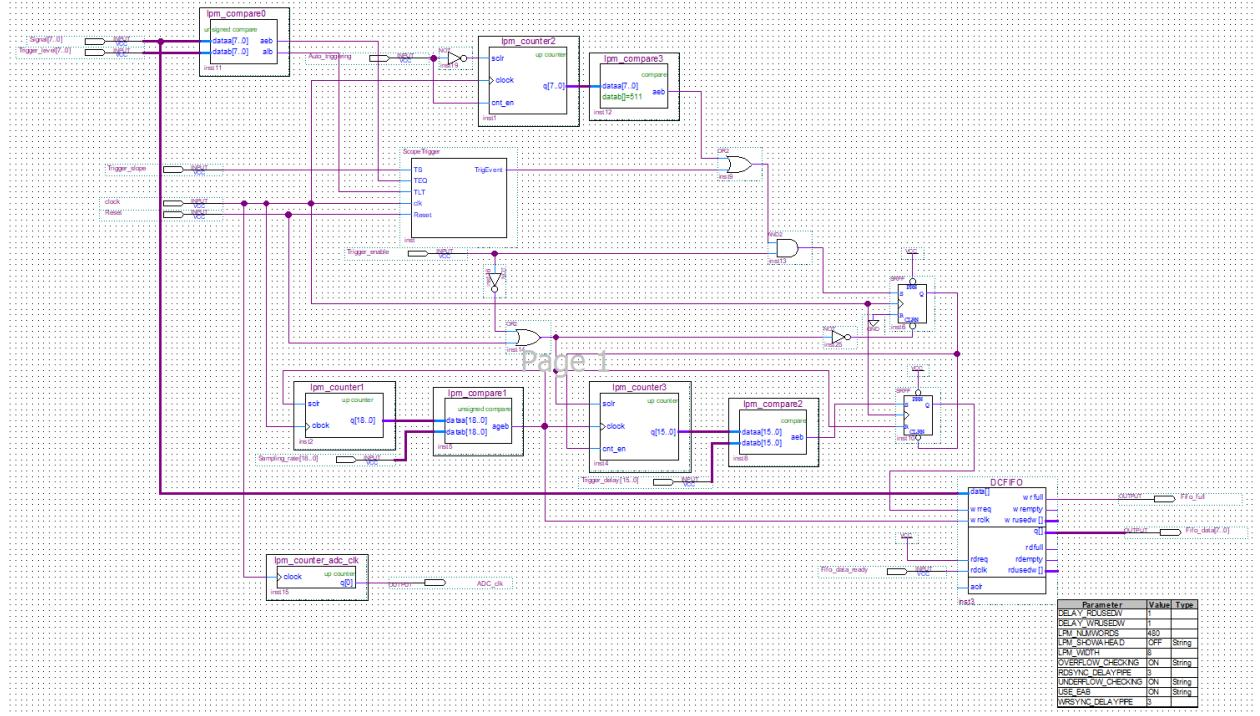

Figure 16: Analog controller block diagram.
**Trigger logic:** First, the system determines whether or not a trigger has occurred. A Moore state machine (the ScopeTrigger block in Figure 16) is used to determine whether or not a trigger has occurred. The trigger event output is set high when the trigger slope is positive and the signal has transitioned from below to above the trigger level, or if the trigger slope is negative and the signal has transitioned from above to below the trigger level. The logic description can be found at Appendix ??.
In order to do this, the 8-bit signal is compared to the trigger level in lpm\_compare0 in Figure 16, and the outputs are sent to
FIFO buffer storage: A FIFO buffer is used to store the signal once a trigger event has occurred (DCFIFO in Figure 16). The FIFO has a size of 480 (the width of the LCD) x 8 bits of data. Once a trigger event has occurred, a counter and comparator are used to create the trigger delay, and an SRFF is set once the delay has been reached to enable writing to the FIFO. A counter and comparator are used to create a clock at the given sampling rate, which is sent to the write clock of the FIFO. The signal is then written into a FIFO buffer at the sampling rate once the trigger delay has finished, and is clocked out by the CPU when it is full.
Analog outputs: As seen in Figure 16, the Fifo\_full signal indicates when the FIFO is full and the sample has been stored, the Fifo\_data bus contains the stored signal data. The Fifo\_data\_ready input is controlled from the CPU, which sends the clock necessary to read out the signal from the data bus.